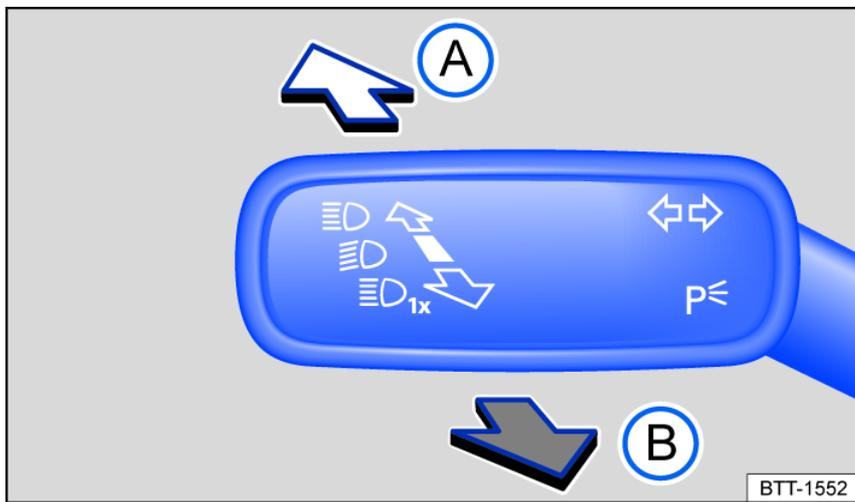

Fig. 98 On the left side of the steering column: turn signal and high beam lever.
- Move the turn signal and high beam lever from the center position to the following position *fig. 98*: